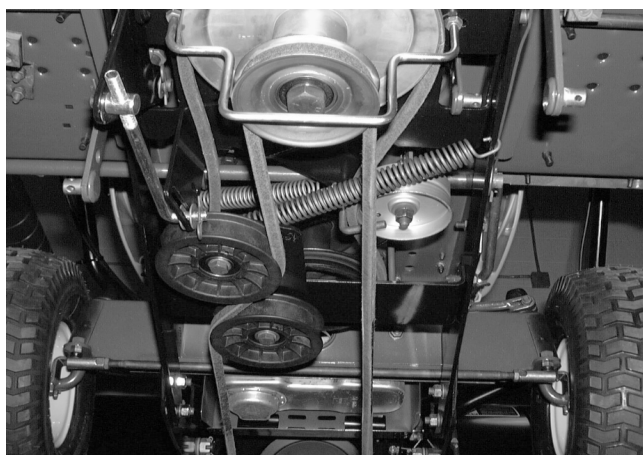

FIGURE 10.
39. Reinstall all belt keepers and belt guard. See figure 10.